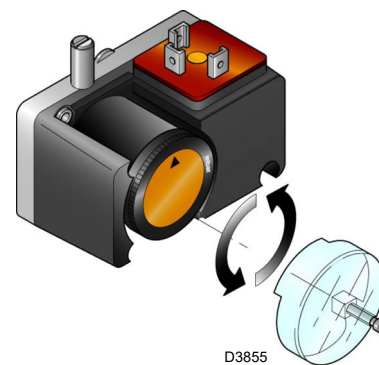

Fig. 31
- Adjust the pressure switch for the valve leak detection control device (PVP Kit)(Fig. 31 at page 33), if present, according to the instructions supplied with the Kit itself.
Adjust the pressure switch for the valve leak detection control device (PVP Kit) (Fig. 31), if present, according to the instructions supplied with the Kit itself.